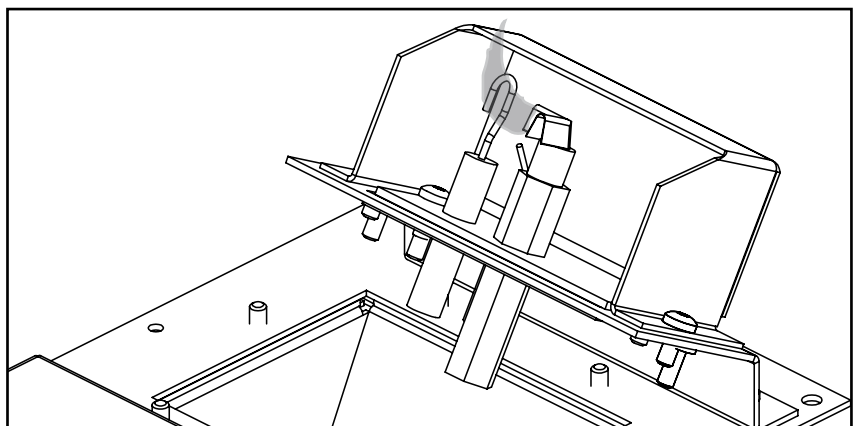

Figure 27: Flame Sensor Coverage
15. Relight the pilot and confirm the flame properly covers the flame sensor hook (see Figure 27). Should the pilot require adjustment, turn the adjustment screw clockwise to decrease or counterclockwise to increase until the correct flame is achieved.